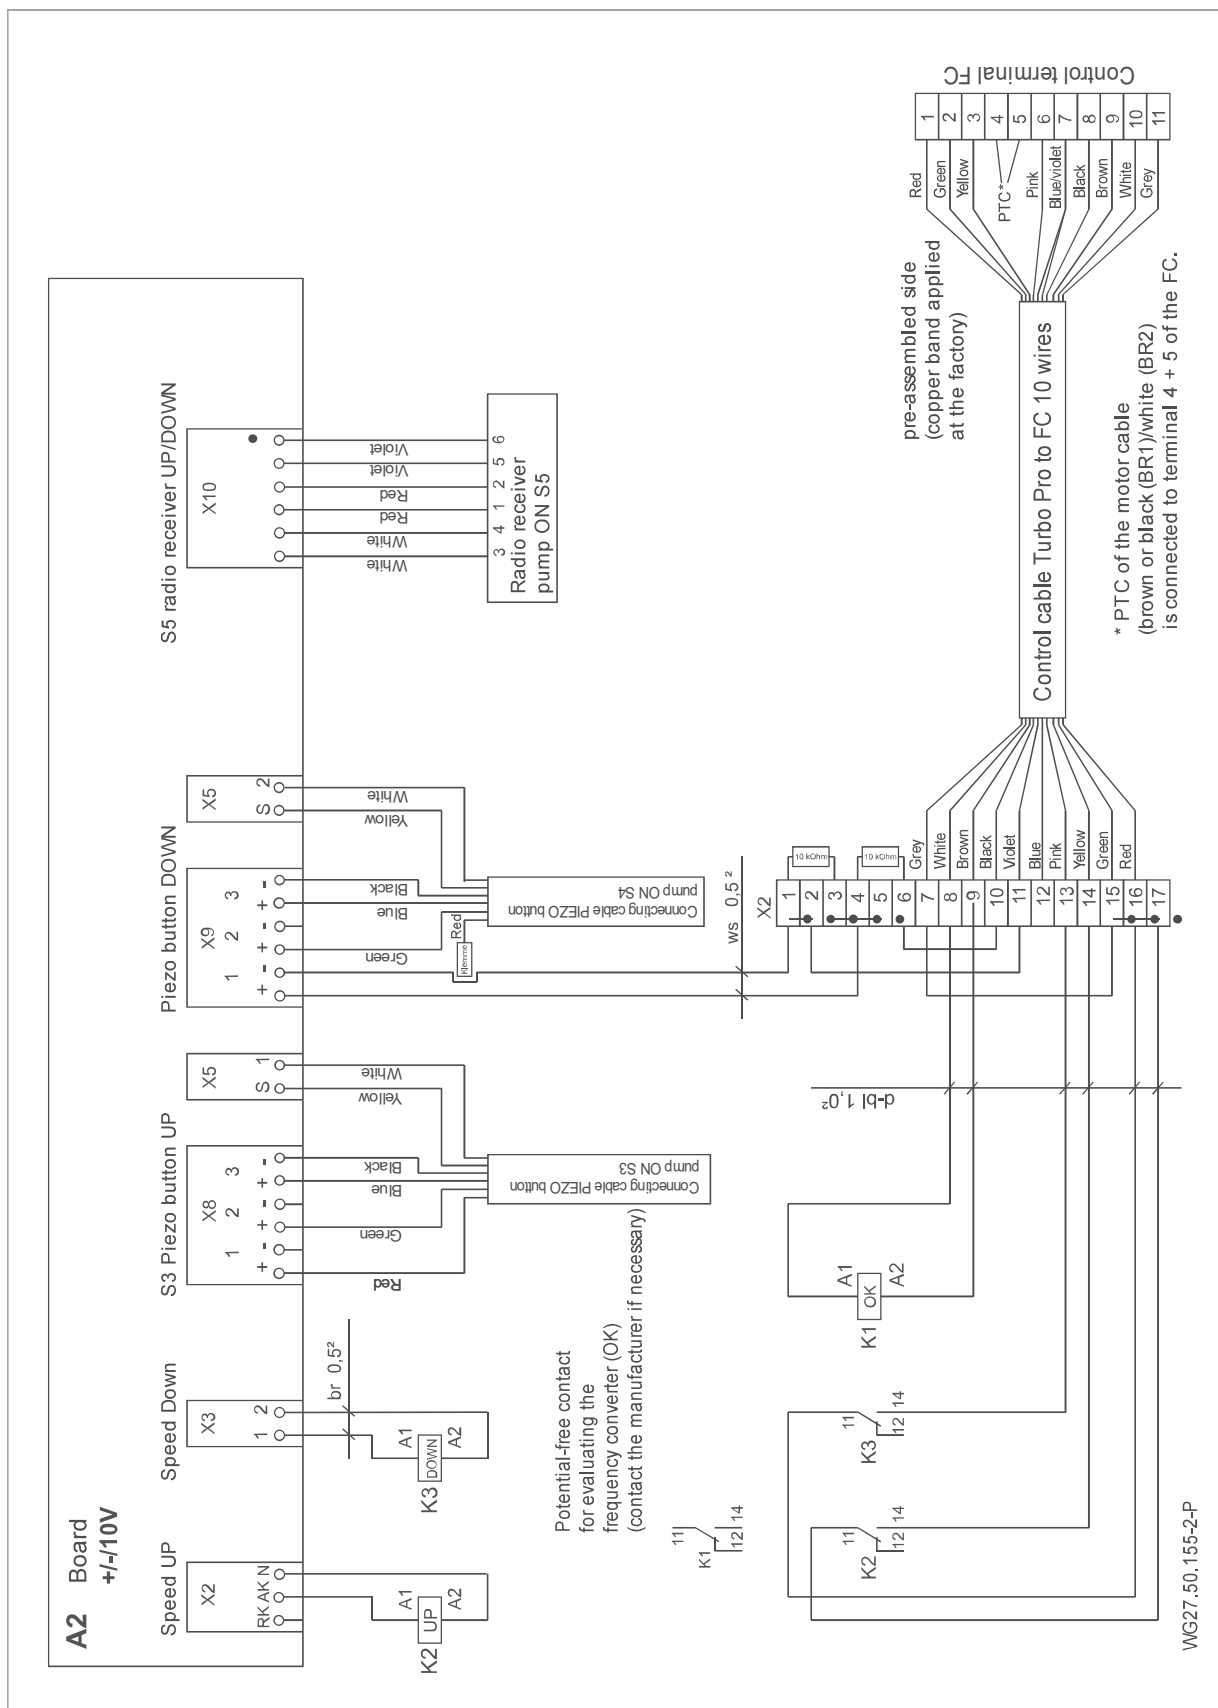

Fig. 20
14. The wires for the PTC (brown or black (BR1)/white (BR2)) must be connected according to the circuit diagram. See "Fig. 20" on page 25.